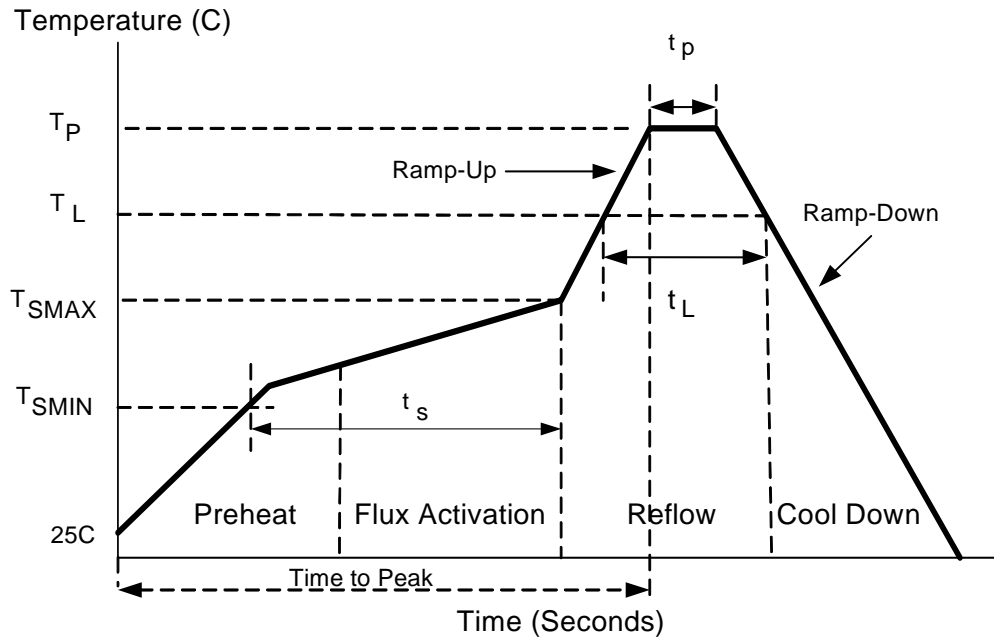

Figure 1. Temperature Profile for Infrared or Convection Reflow
2. FIGURE 1. TEMPERATURE PROFILE FOR INFRARED OR CONVECTION
Figure 1 and Table 1 show a sample temperature profile compliant to JEDEC standards. Different board designs use different number and types of devices, solder paste, reflow ovens, and circuit boards. No single temperature profile works for all possible combinations. One can use this example as a generic target to set up its own reflow process. Reflow process should adhere to the JEDEC profile limits as well as specifications and recommendations from solder paste manufacturer to avoid damaging the device and create a reliable solder joint.
## 2. Figure 1. Temperature Profile for Infrared or Convection Reflow